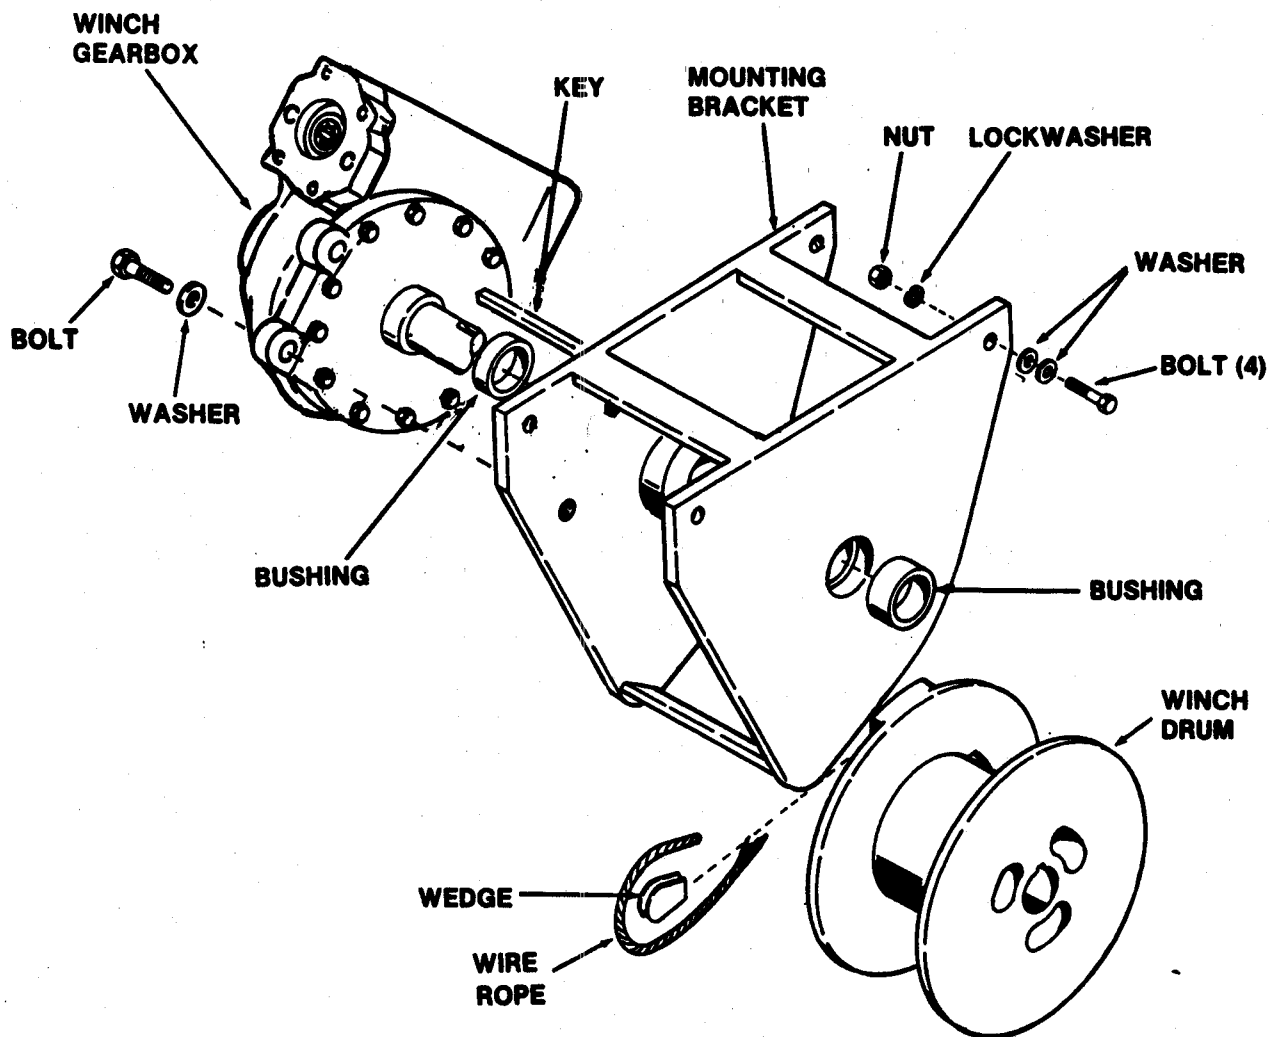

Figure 8. Main Winch
See Figure 8.
3. Assemble the gearbox key and winch drum to the mounting bracket. Fasten the gearbox to the mounting bracket with the three bolts and washers. See Figure 8.